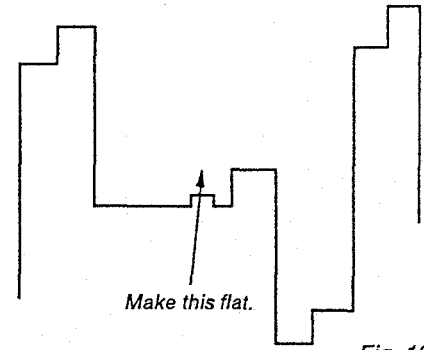

Fig. 12
- 4) Adjust **[NTSC PHASE]** so that the output waveform burst section becomes a straight line. (Fig. 12)